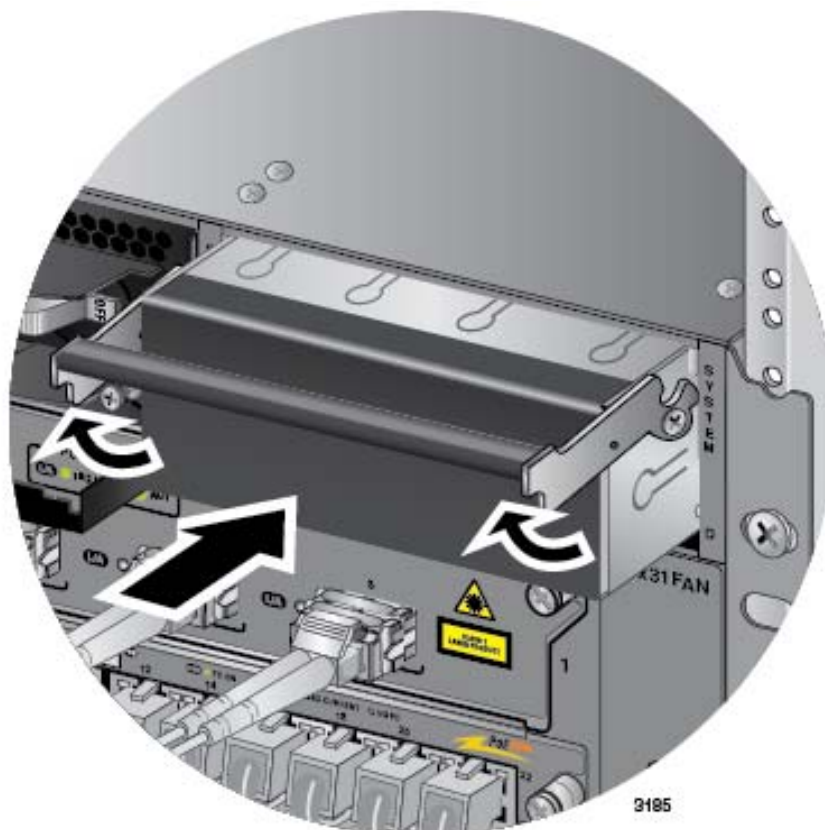

Figure 181. Installing a Blank Power Supply Slot Cover
13. Place the locking handle on the blank power supply slot cover in the up position and slide the cover into the empty power supply slot. Refer to Figure 181 on page 304.